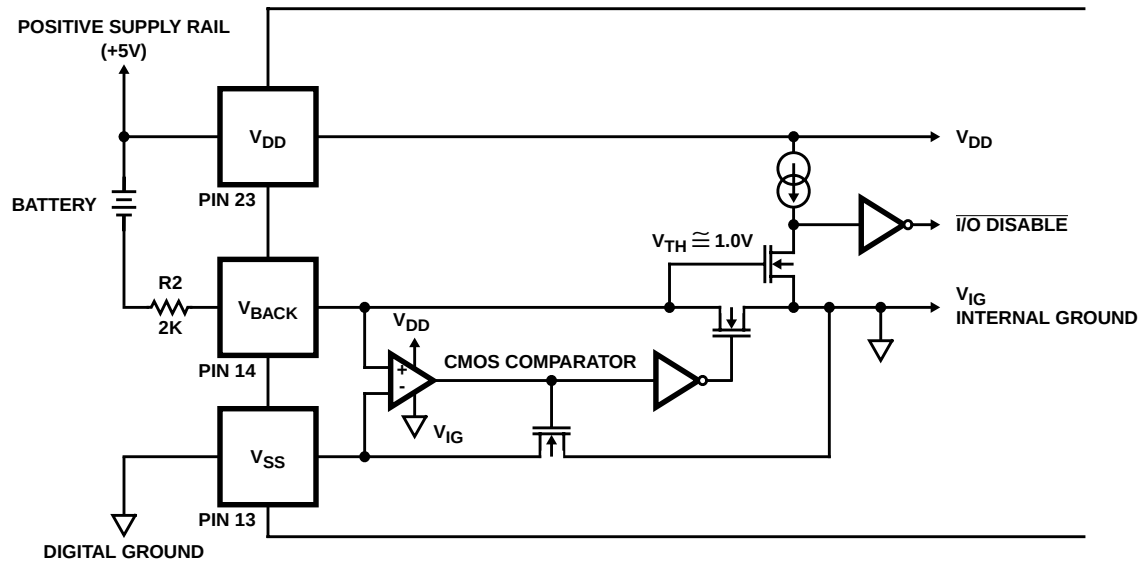

FIGURE 6. SIMPLIFIED ICM7170 BATTERY BACKUP CIRCUIT
The ICM7170 contains an on-chip power down detector that eliminates the need for external components to support the battery-backup switchover function, as shown in Figure 6. Whenever the voltage from the V_{SS} pin to the V_{BACKUP} pin is less than approximately 1.0V (the V_{TH} of the N-channel MOSFET), the data bus I/O buffers in the ICM7170 are automatically disabled and the chip cannot be read or written to. This prevents random data from the microprocessor being written to the clock registers as the power supply is going down.
The new load configuration (Figure 6) allows these two conditions to be met independently. The two load capacitors, C1 and C2, provide a fixed load to the oscillator and crystal. C3 adjusts the frequency that the circuit resonates at by reducing the effective value of the crystal's motional capacitance, C0. This minute adjustment does not appreciably change the load of the overall system, therefore, stability is no longer affected by tuning. Typical values for these capacitors are shown in Table 5. C1 and C2 must always be greater than twice the crystal's recommended load capacitance in order for C3 to be able to trim the frequency. Some experimentation may be necessary to determine the ideal values of C1 and C2 for a particular crystal.
4. **EXTERNAL BATTERY BACKUP** - The ICM7170 may be placed on the same power supply as battery-backed up RAM by keeping the ICM7170 in its operational state and having an external circuit switch between system and backup power for the ICM7170 and the RAM. In this case V_{BACKUP} should be pulled up to V_{DD} through a 2K resistor. Although the ICM7170 is always "on" in this configuration, its current consumption will typically be less than a microamp greater than that of standby operation at the same supply voltage (See Note 9). Proper consideration must be given to disabling the ICM7170s and the RAMs I/O before system power is removed. This is important because many microprocessors can generate spurious write signals when their supply falls below their specified operating voltage limits. NANDing CS (or WR) with a POWERGOOD signal will create a $\overline{CS}$ (or $\overline{WR}$) that is only valid when system power is within specifications. The POWERGOOD signal should be generated by an accurate supply monitor such as the ICL7665 under/over voltage detector. An alternate method of disabling the ICM7170's I/O is to pull V_{BACKUP} down to under a volt above V_{SS} ($V_{SS} < V_{BACKUP} < 1.0V$). This will cause the ICM7170 to internally disable all I/O. Do not allow V_{BACKUP} to equal V_{SS} , since this could cause oscillation of the battery backup comparator (See Figure 6). $V_{BACKUP} = V_{SS} + 0.5V$ will disable the I/O and provide enough overdrive for the comparator.